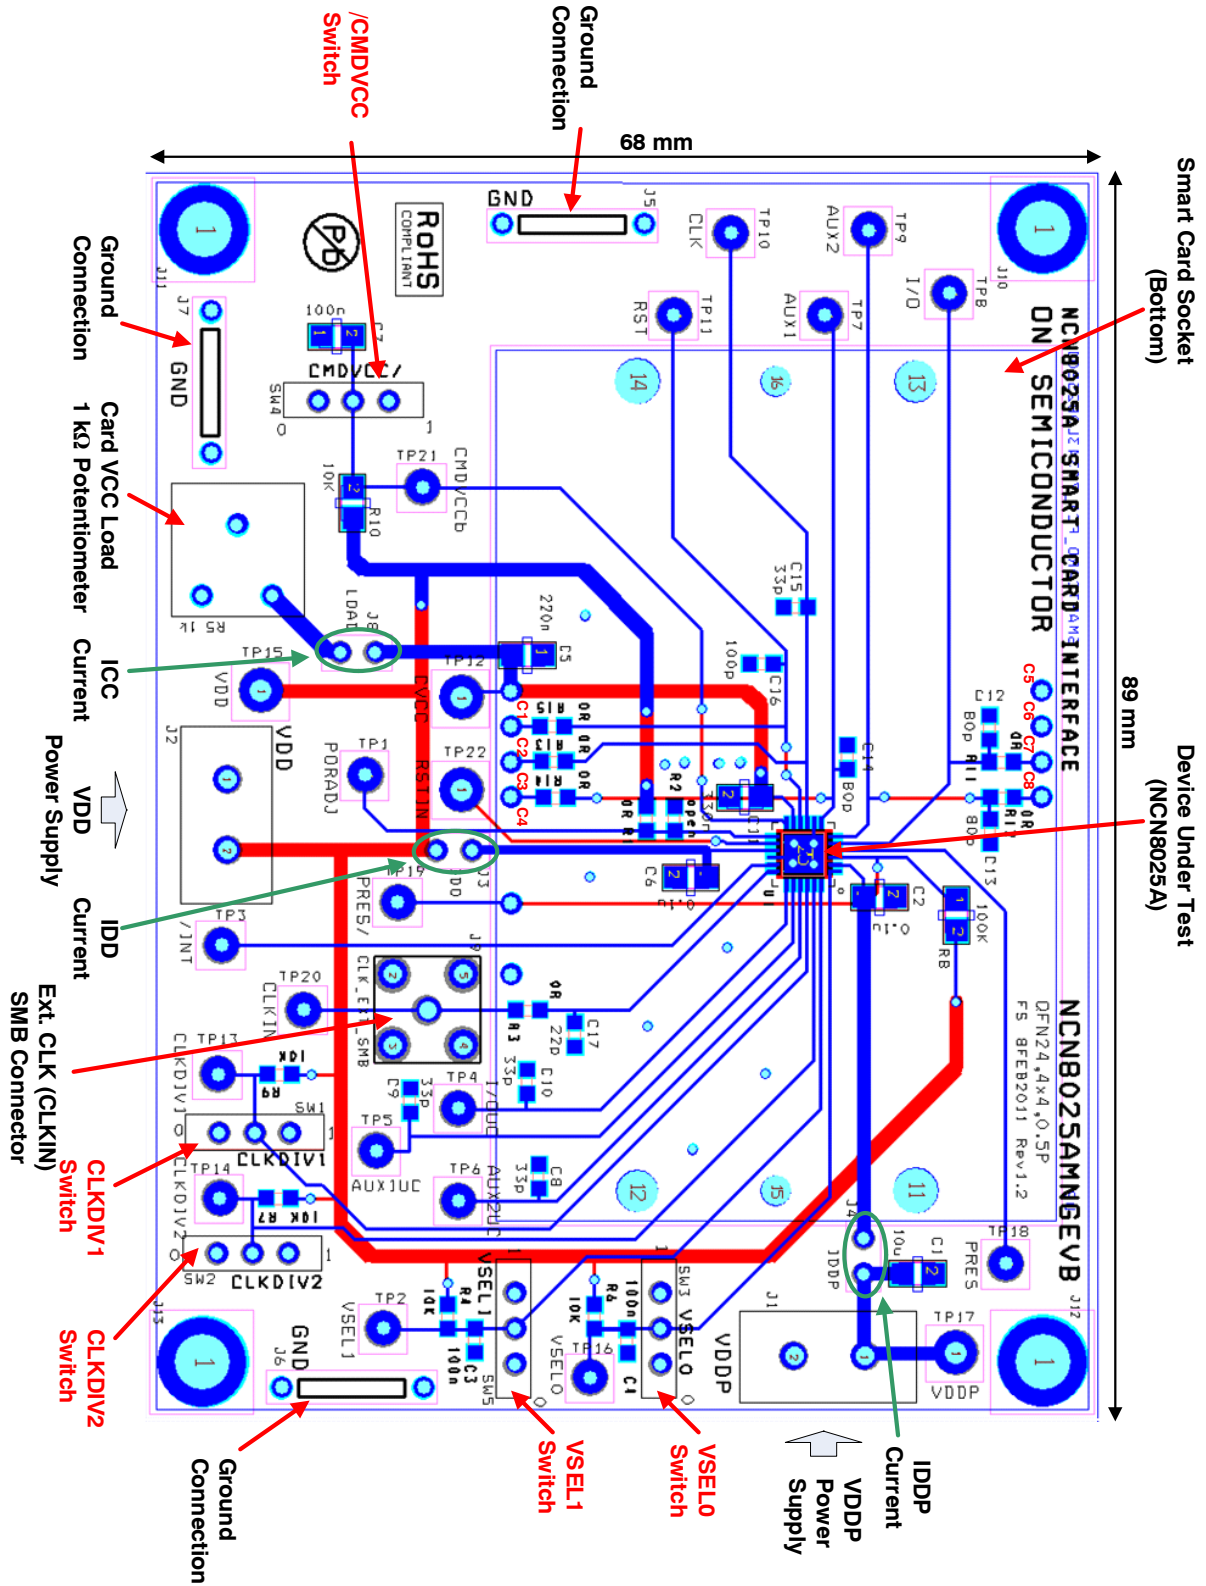

Figure 2. Board Description
See Figure 2.
- 2 pins are used to change the Card V_{CC} power supply or the smart card interface mode which can be 1.8 V, 3.0 V or 5.0 V. These 2 pins are VSEL0 and VSEL1 and on the board, changing VSEL0 and VSEL1 is done using 2 corresponding switches (see Figure 2) according to the below Table 1. When VSEL0 = 0 then VSEL1 is in the mode 5 V / 3 V_{bar}, when VSEL0=1 then VSEL1 is in the mode 1.8 V / 3 V_{bar}. The initial setup can be VSEL0 = 0 and VSEL1 = 1 for selecting the 5 V mode. The card V_{CC} (CVCC) output voltage cannot be changed on the fly when the smart card interface is active (/CMDVCC = Low). For changing card V_{CC} it is necessary to deactivate the device then to reconfigure the card V_{CC} by setting the appropriate VSEL0 and VSEL1 finally the smart can be activated again with this new smart card power supply voltage.